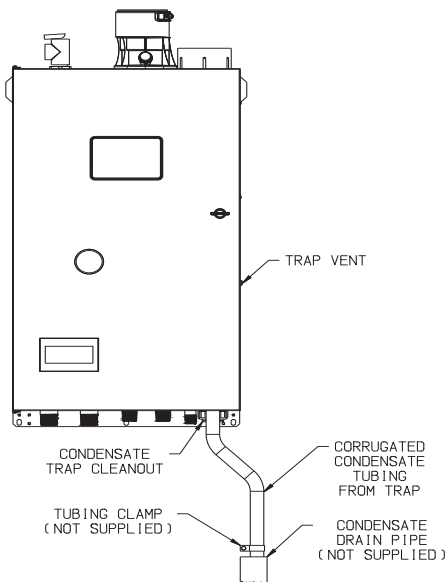

Figure 7.47: Condensate Piping Arrangement
All condensate which forms in the boiler or vent system passes through the heat exchanger and out of a bottom drain port which is connected to the condensate trap with a hose. This trap allows condensate to drain from the heat exchanger while retaining flue gases in the boiler. This trap is an integral part of the boiler but must be connected to a drain pipe as shown in Figure 7.47. A length of corrugated tubing is supplied with the boiler and is connected to the trap as shown in Figure 7.47. Note the following when disposing of the condensate:
1. If the corrugated condensate drain line must be extended, construct the extension from PVC or CPVC pipe. Insert the hose provided with the boiler into the end of the extension as shown in Figure 7.47.
6. Do not attempt to move the trap from the location shown in Figure 7.47. Do not attempt to substitute another trap for the one provided with the boiler.